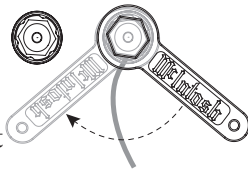

Figure 4– Tightening Input Post
4. Place the supplied McIntosh wrench over the end of the Input Terminal and rotate it one quarter of a turn (90°) to secure the Loudspeaker cable connection. **Do not over tighten.** (*Figure 4*)